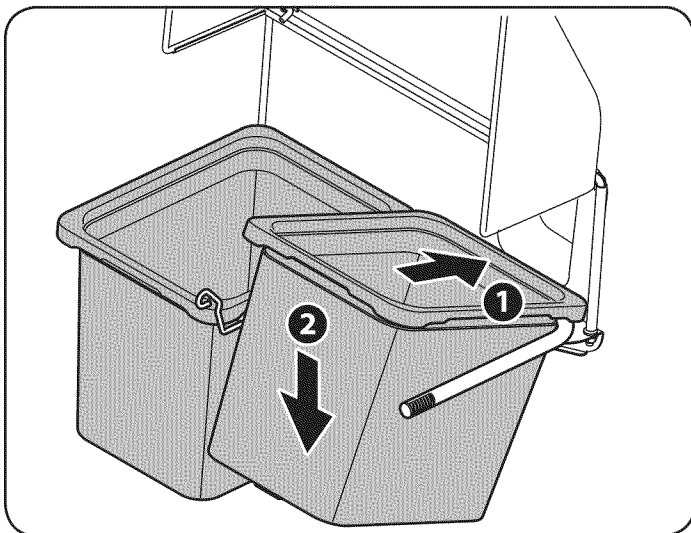

Figure 12
7. Install the bags onto the mounting frame as shown in Fig. 12 in the Operation section. Simply place the leading edge of the bag onto the front frame rail, then rock the bag backwards and down into place.
2. Remove the grass bags by lifting these up (1 in Fig. 12) and moving the bags away from the bag support assembly (2).